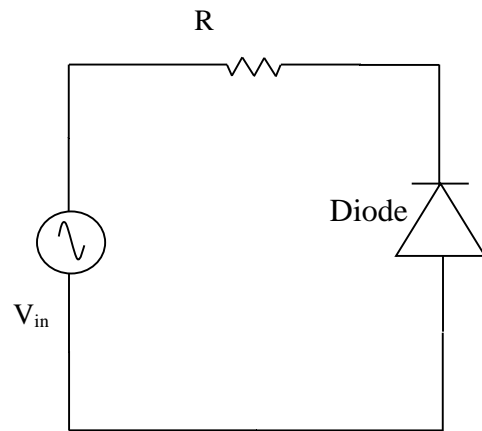

Fig 5.5 Unbiased parallel clipper circuit
1.Connect circuits in Fig 5.5 given below: